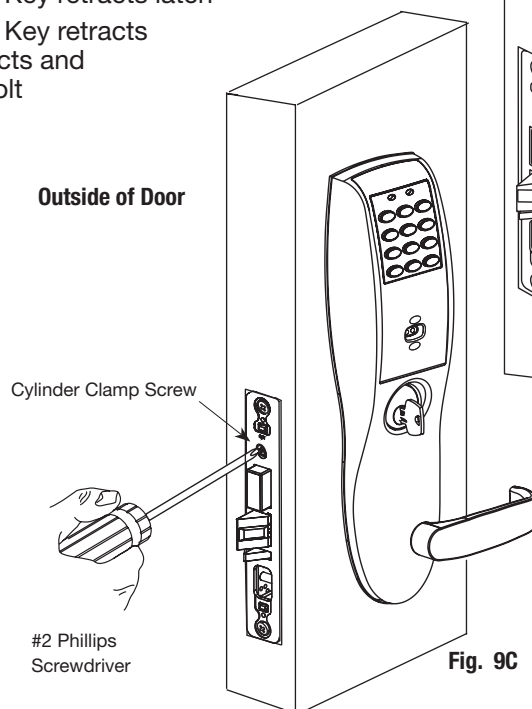

Fig. 9C
2. Secure the cylinder by tightening cylinder clamp screw located above the deadbolt using #2 Phillips screwdriver (Fig. 9C).